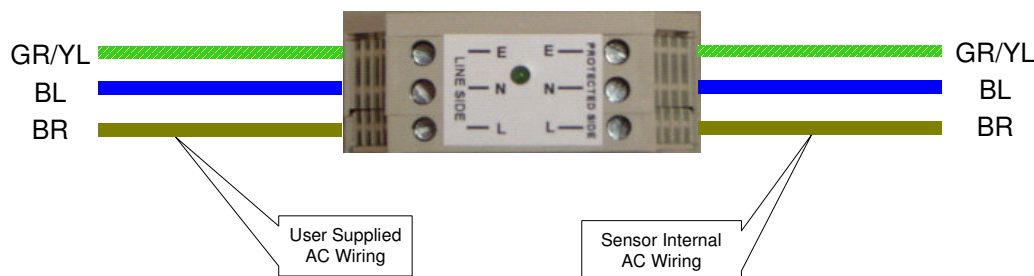

Figure 5.4.4-1 Surge Module Wiring
- Replacement – Place the new module over the DIN rail with the “protected side” on the right. Clip the left side over the left side of the DIN rail and lower the right side until it clips on the rail. Slide the lower DIN rail clamp up against the new module and tighten its hold down screw to secure the surge module. Wire the module per Figure 5.4.4-1 and refer to Section 2.3.1 for additional information.